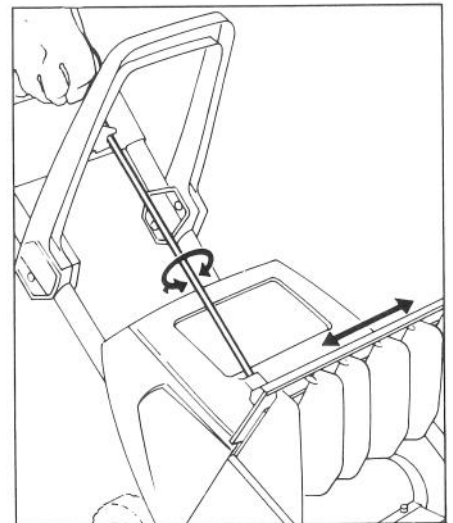

Figure 8
2. Direct the snow to left, right or straight ahead by twisting the vane directional control attached to the middle handle (Fig. 8).